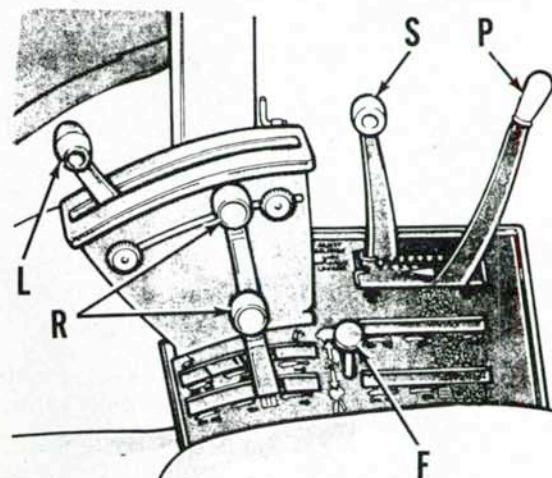

Fig. 311—View of operator's control console.
**232. HYDRAULIC LIFT CONTROL LEVER LINKAGE.** The lift control lever (L—Fig. 311) must provide full travel of control linkage without the lever con-
Place selector lever (S—Fig. 311) in position control (fully rearward). Start engine and move lift control lever (L) fully forward; the lift linkage should then move to fully lowered position. Slowly move control lever rearward: lift linkage should start to raise when lever is 1/2 to 1 inch (13-25 mm) away from front end of slot in console. If lift arms do not start to raise until after lever is more than 1 inch (25 mm) away from front end of slot in console, adjust position control pivot as follows:
**234. DRAFT CONTROL ADJUSTMENT.** To check draft control adjustment, start engine and place selector lever (S—Fig. 311) in draft control position (fully forward). Move lift control lever (L) forward until lift arms are fully lowered, then slowly move lever rearward. The lift arms should start to raise when rear side of lever is 1/2 to 1 inch (13-25 mm) away from rear of slot in console. If lift arms do not start to raise with control lever in this position, adjust draft control as follows: